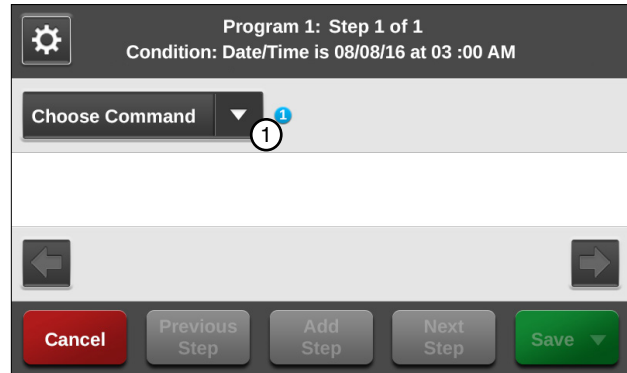

Figure 108-1 1. Choose Command Drop-Down
4. Enter the commands to execute on 08/08/16 at 3:00 AM. Refer to Figures 108-1 through 108-3.